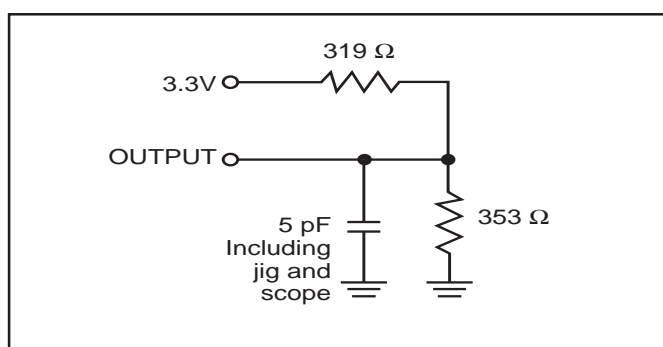

Figure 2.
2. Tested with the load in Figure 2. Transition is measured  $\pm 500$  mV from steady-state voltage. Not 100% tested.
3. Tested with the load in Figure 2. Transition is measured  $\pm 500$  mV from steady-state voltage. Not 100% tested.